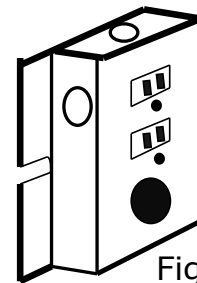

Figure: 17
Step 6: Insert 3-Prong Plug into Junction Box. Use the included 3-Prong to 2-Prong adapter if necessary. (Figure: 17)